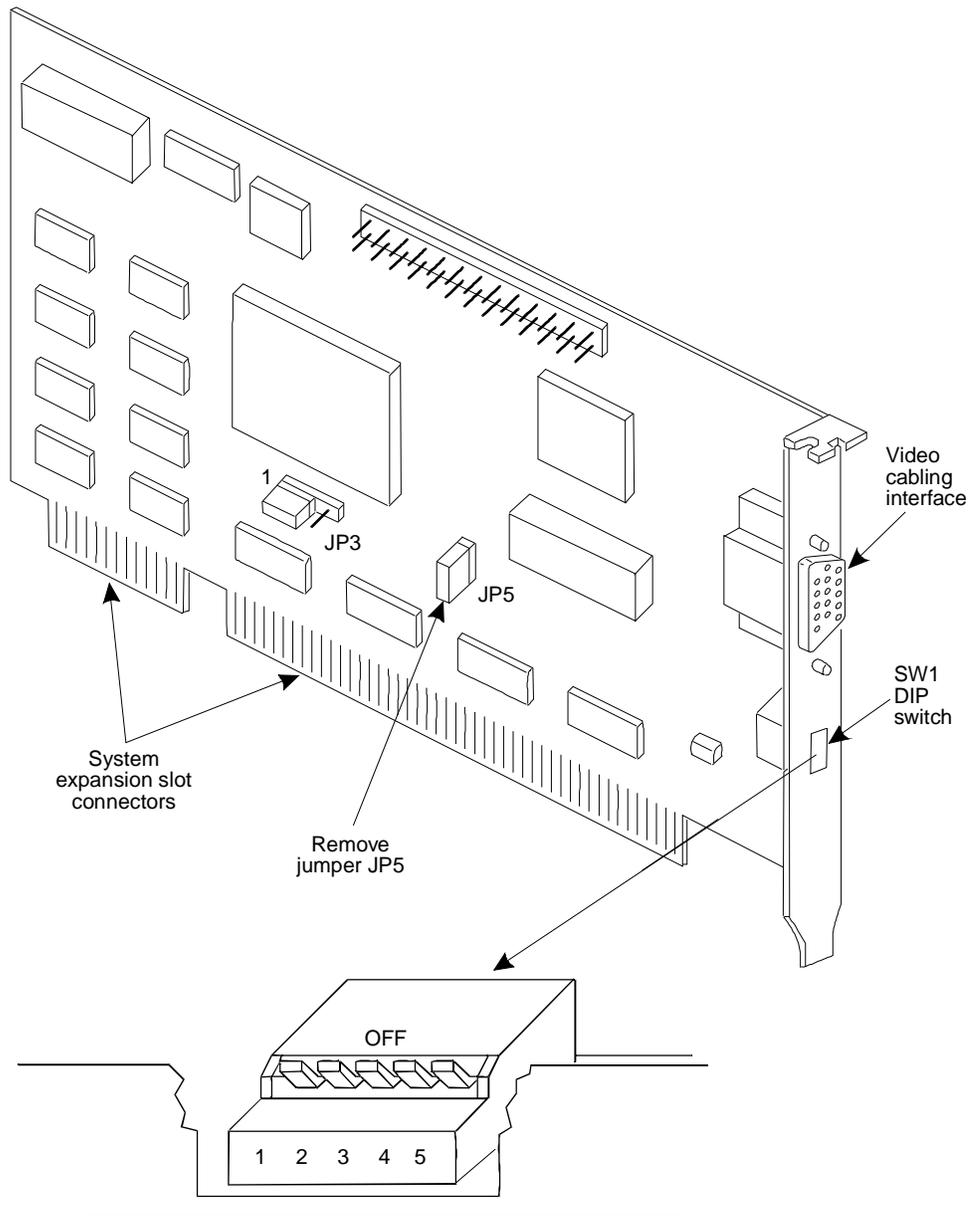

Figure 5-26. WDXLR831124 Video Controller Circuit Card and Switch Settings
- WDXLR831124 (Figure 5-26)
There are no jumpers on the WDXLR831124 video controller card. There are switches which must be set before the circuit card can be installed in the MAP/40 or 40s (Figure 5-26).